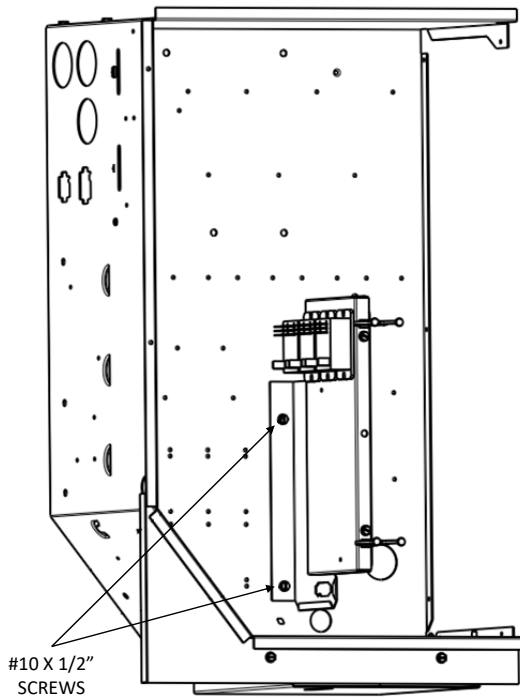

FIGURE 13
- Attach the new Voltage Barrier with the LACK Mount and relays to the control box using the existing #10 X 1/2" screws. See Figure 13.